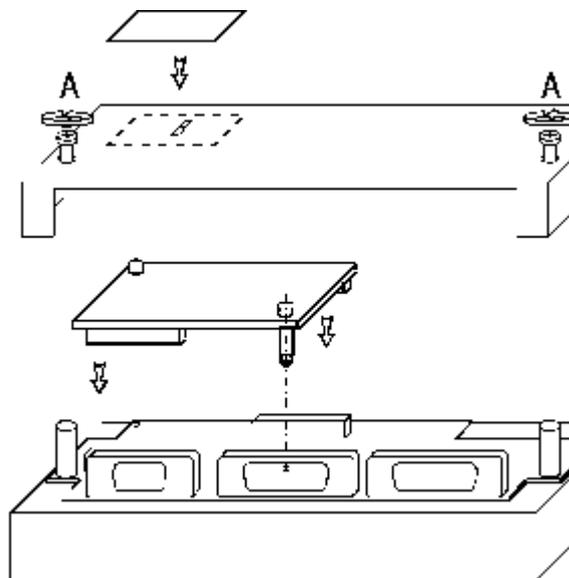

Figure 4
2. Using a screwdriver, unscrew (not completely) the two screws “A” fixing the rear cover (shown in Figure 4).